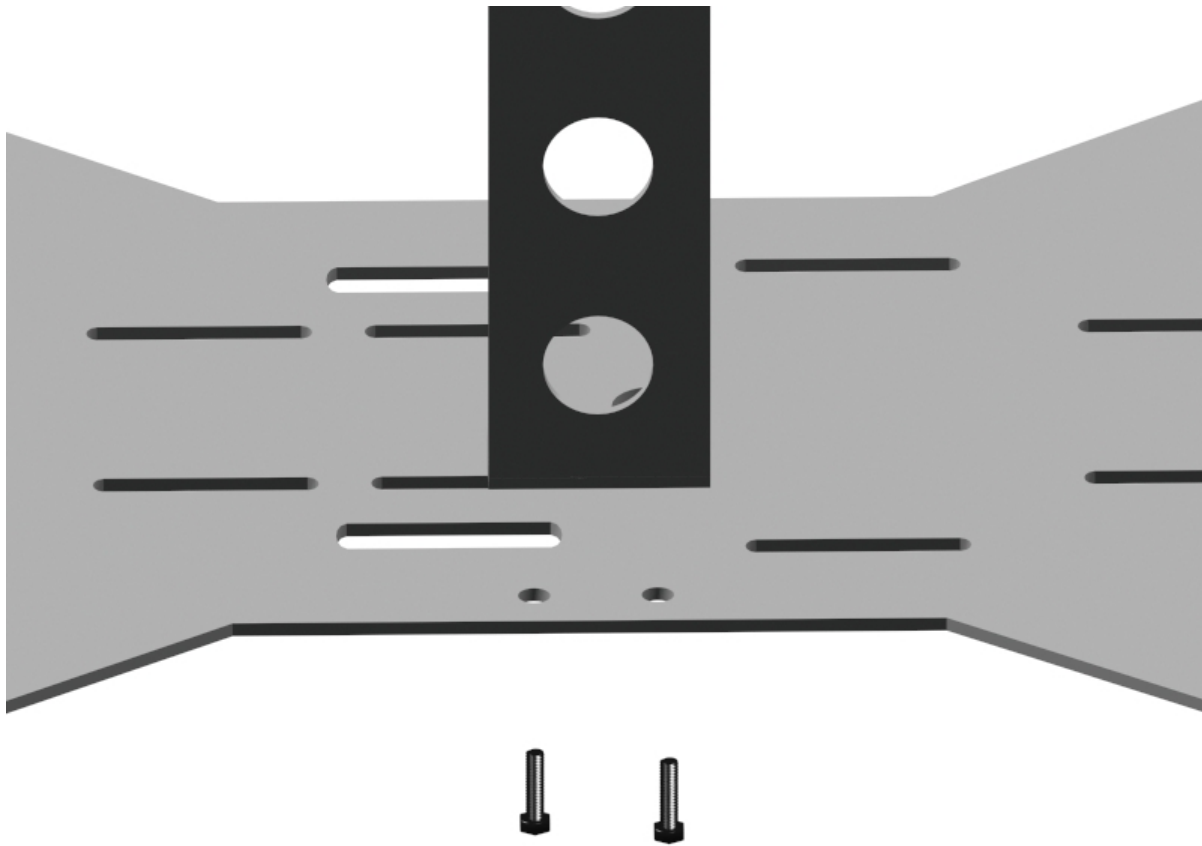

Figure 39: Side Support Assembly
3. Once **all** of the pem studs are aligned and inserted into the leg pivot holes, hold both decks together and place the QuadCrawler onto its back. Secure the lower deck to the upper deck with #4 5/16" screws and washers (where applicable) as shown in figures 39, 40 and 41.